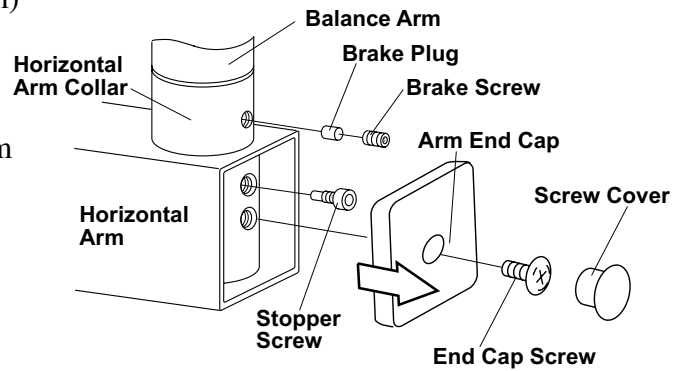

Fig.3-13 Attaching Balance Arm to Horizontal Arm
6. Insert the brake plug and brake screw (M6 x 6mm) into the horizontal arm collar. (Fig.3-13)
Replace the end cap with cap screw and place a screw cover. (Fig.3-13)
If the end of the horizontal arm shown in position #1 is pitched below level, then the tube head will drift away from the wall. If the end of the horizontal arm in position #1 is pitched above level, then the arm will require only minimum adjustment of the brake screw. (Fig.3-13)